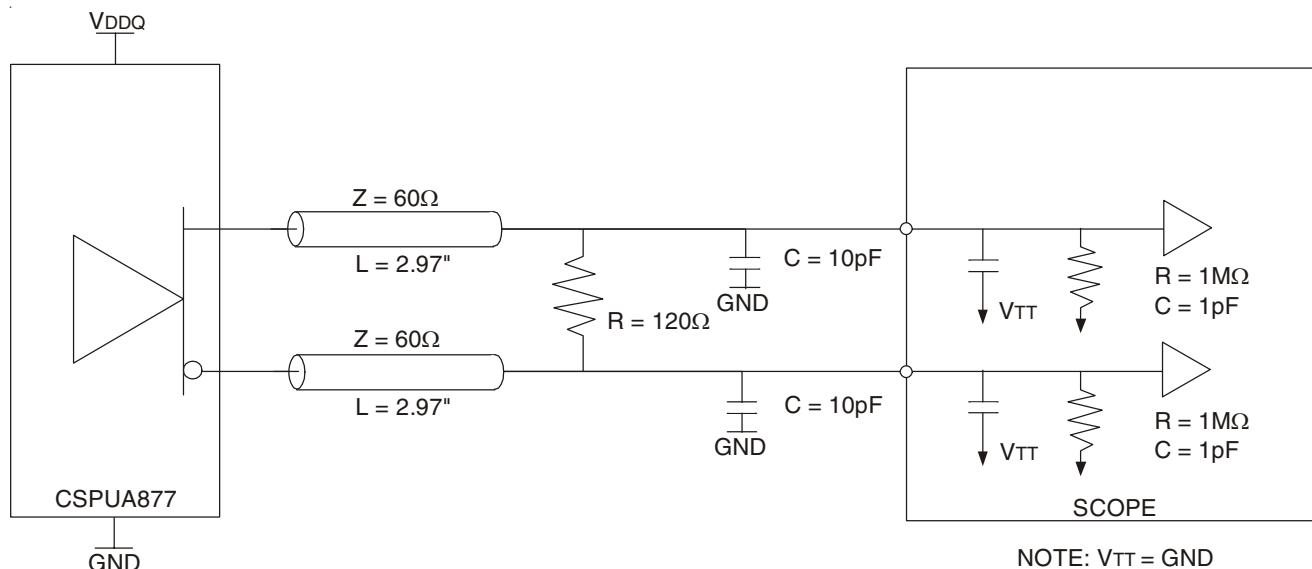

Figure 1: Output Load Test Circuit 1
- There are two different terminations that are used with the above AC tests. The output load shown in figure 1 is used to measure the input and output differential pair cross-voltage only. The output load shown in figure 2 is used to measure all other tests, including input and output slew rates. For consistency, use 50 $\Omega$  equal length cables with SMA connectors on the test board.
- In the frequency range of 271 - 410MHz, the min and max values for tJIT(PER) and t( $\phi$ )DYN, and the max value for tsk(O), must not exceed the corresponding min and max values of the 160 - 270MHz range. Also, the sum of the specified values for | tJIT(PER) |, | t( $\phi$ )DYN |, and tsk(O) must meet the requirement for  $\Sigma t$ (SU), and the sum of the specified values for | t( $\phi$ )DYN | and tsk(O) must meet the requirement for  $\Sigma t$ (H).